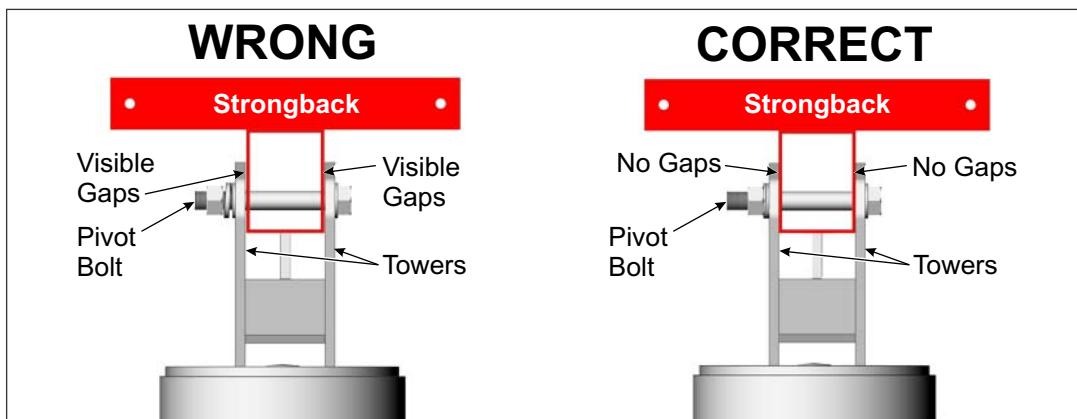

Figure 2-4: Tighten and Torque the Pivot Bolt
G. Return and tighten the Pivot Bolt. The Pivot Bolt cannot be left loose - the Mounting Sleeve Vertical Towers must be firmly clamped to the sides of the Strongback eliminating any gaps between the Vertical Towers and the Strongback. **Torque to 125-150+ ft.-lbs. for 3/4" hardware or 330-350 ft.-lbs. for 1" hardware.** (See Figure 2-4)